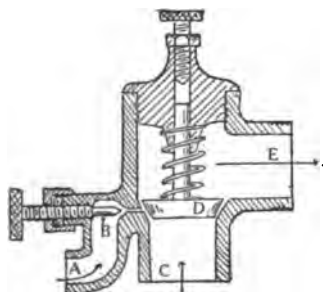

Fig. 1
ing through which the liquid fuel passes, and a larger opening through which the air is drawn. Such a carbureter, or *mixing-valve*, is illustrated in Fig. 1. In this device A is the fuel-inlet with an adjustable needle-valve (B) to regulate the flow; C is the air-intake, with a spring check-valve (D), and E is the inlet to the motor.